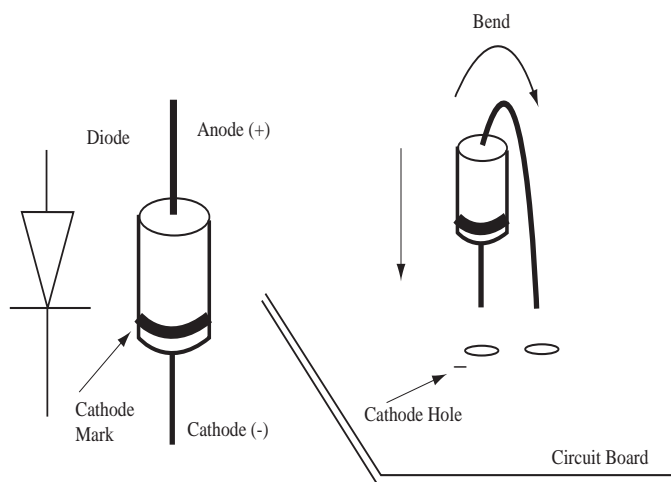

Figure 4: Installing the flyback diodes. It is important to match the cathode lead to the appropriate hole on the circuit board as shown.
3. Bend the diode D1 (1N4004) as shown below in Figure 4. Insert the diodes into the holes of the circuit board. Be sure that the cathode lead of the diode is inserted into the hole with the “-” mark. If the diode is not soldered properly, damage may result. Each circuit requires two diodes and there are a total of eight for four circuits. Double check again to make sure that the diodes are solder properly!